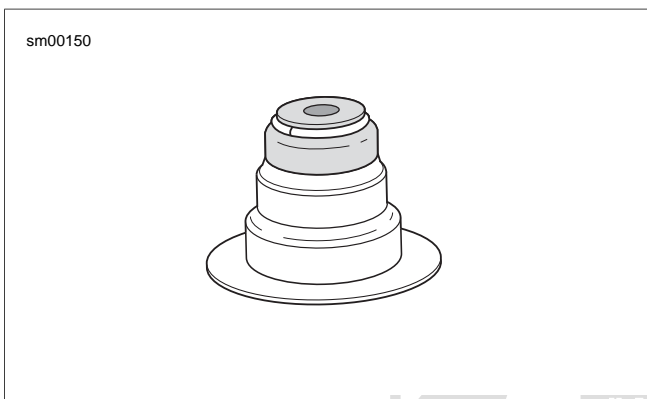

Figure 3-61. Valve Seal and Lower Collar Assembly (Seal and Lower Collar Replaced as Assembly Only)
- See Figure 3-61. The valve seal is incorporated into the lower collar and is installed by hand. NO SPECIAL TOOLS ARE REQUIRED.
- c. See Figure 3-61. Using a grease pencil, mark a straight line on the cylinder head bolt continuing the line over onto the cylinder head.